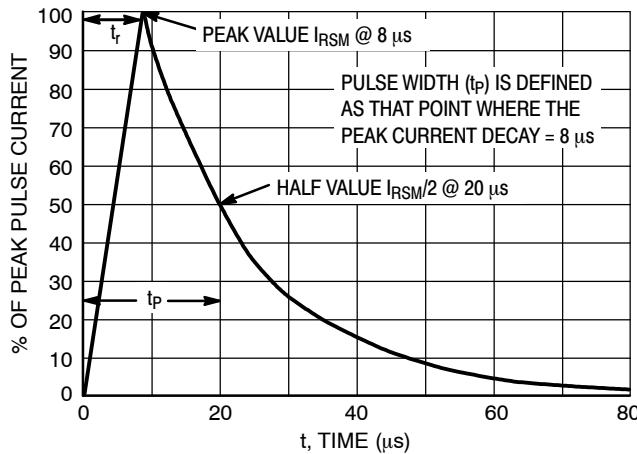

Figure 5. 8 X 20  $\mu$ s Pulse Waveform
1. Non-repetitive current per Figure 5.
4. Surge current waveform per Figure 5.